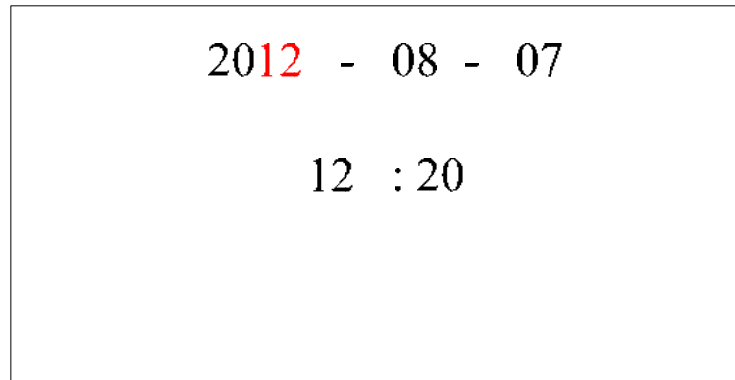

Figure-22 Set Year
3.2.2 Set Time .First press S1 go to set interface, Second press S2 or S3 choose Set Time position as shown in Figure-14, Third press S1 go to Figure-22.